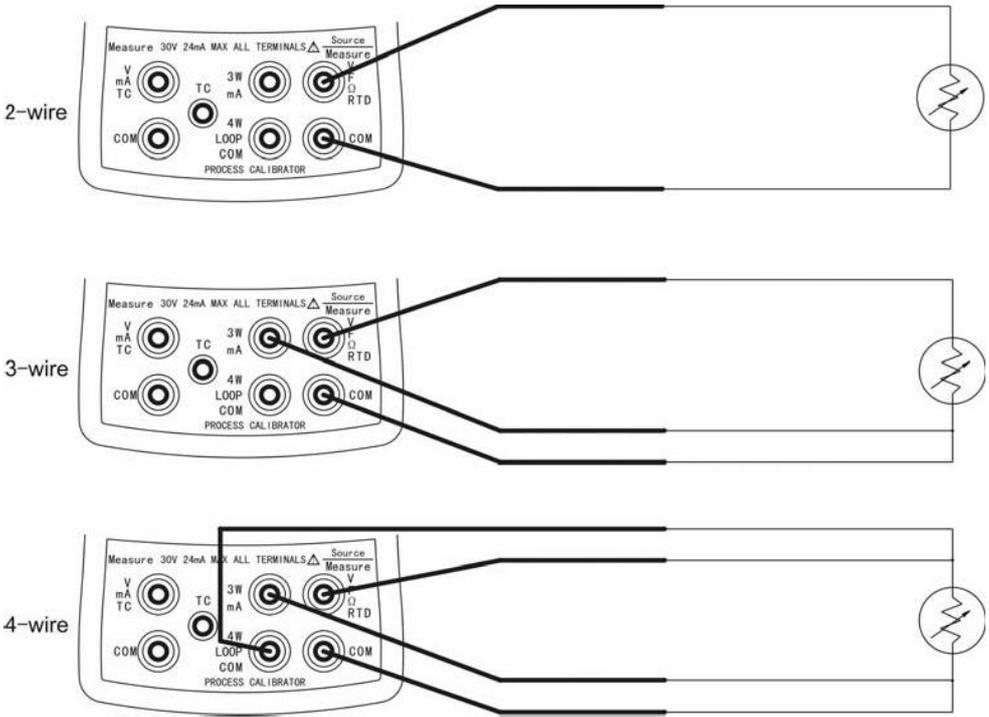

Figure5-9 Measuring Temperature with an RTD
- (1) Press **SOURCE** **MEAS** until the lower display shows "MEASURE".
- (2) Press **RTD** to select the desired RTD type.
- (3) Press **↗** **↘** to select a 2-, 3-, or 4-wire mode. Connect the test leads as shown in Figure5-9.